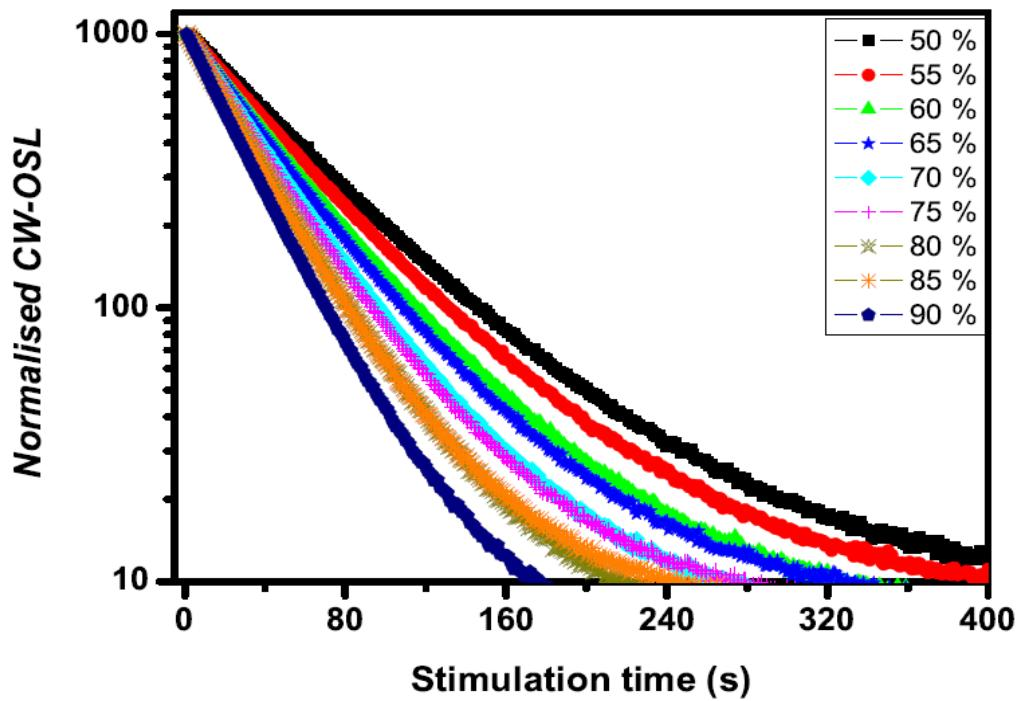

Fig. 3: CW-OSL for various stimulation intensities.
3. Check the dependence on the stimulation intensity by plotting a figure similar to Fig 3.